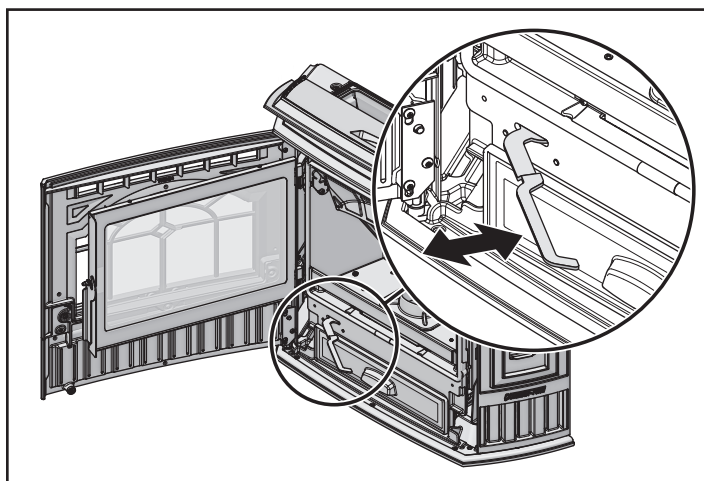

Figure 17.2
- c. Pull fire pot floor cleaning lever two times until the ash falls into the ash pan below. **Figure 17.2**